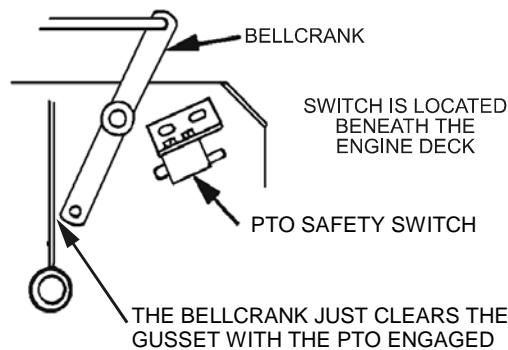
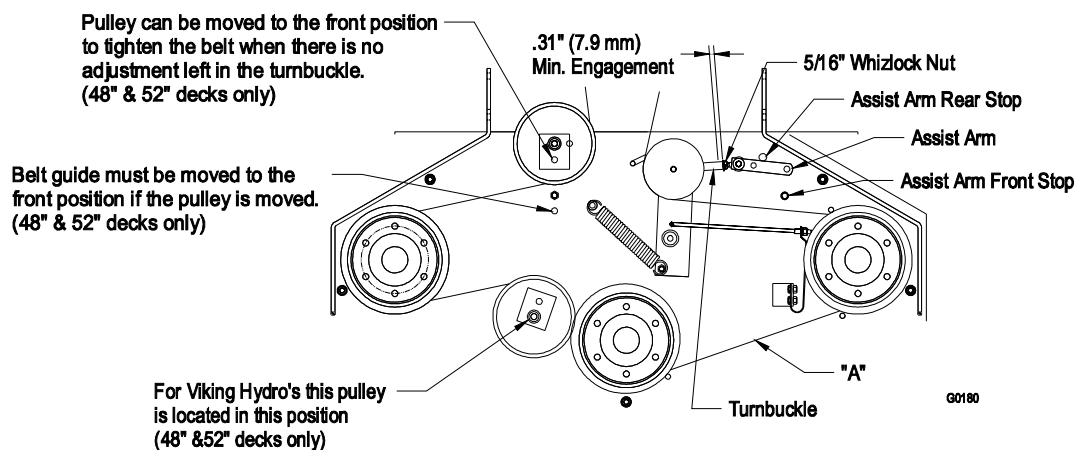

FIGURE 12
FIGURE 13
- b) With PTO engaged (lever pulled up), adjust the linkage length to where the lower end of the bellcrank just clears the axle support gusset (See Figure 12). Make sure the assist arm is against the rear assist arm stop on the deck (See Figure 13). Push the lever down to the disengaged position. The assist arm should contact the front assist arm stop on the deck. If it does not contact, readjust so that the bellcrank is closer to the gusset.
- d) Belt must be tight enough so it does not slip during heavy loads while cutting grass. Over-tensioning will reduce belt and spindle bearing life. To adjust belt tension, loosen the 5/16" whizlock nut on turnbuckle and rotate the turn buckle; rotate turnbuckle toward rear of mower to tighten, and toward front of mower to loosen belt tension (See Figure 13).
For 48" & 52" Decks: If there is no adjustment left in the turnbuckle and the belt is still loose, the rear idler pulley can be repositioned in the front hole (See Figure 13). The belt guide located next to the pulley must also be repositioned in the front hole when the pulley is moved. The turnbuckle will need to be readjusted.
- e) Proper belt tension will require about 10 lbs. (44.5 Nt.) side pull on the belt, halfway between pulleys, to deflect belt 1/2" (1.3 cm). (See Figure 13, Point A).